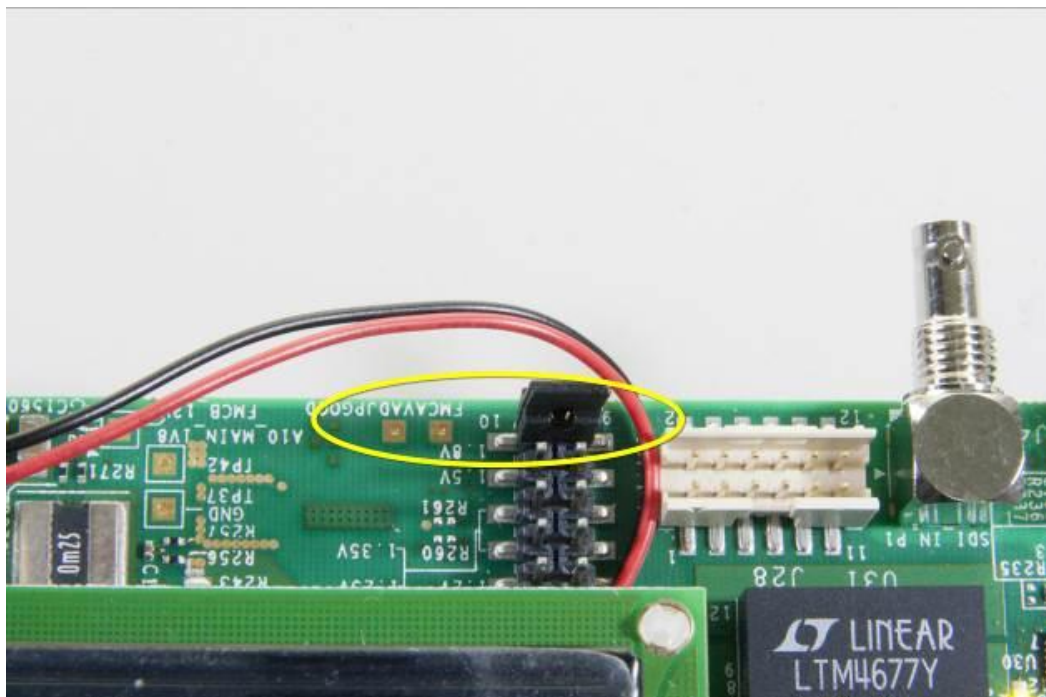

Figure 4-8 Adjust FMC_A VADJ to 1.8V by short J42.9 and J42.10
- Make sure the FMC_A's VADJ is set to 1.8V by short J42.9 and J42.10 as shown in Figure 4-8